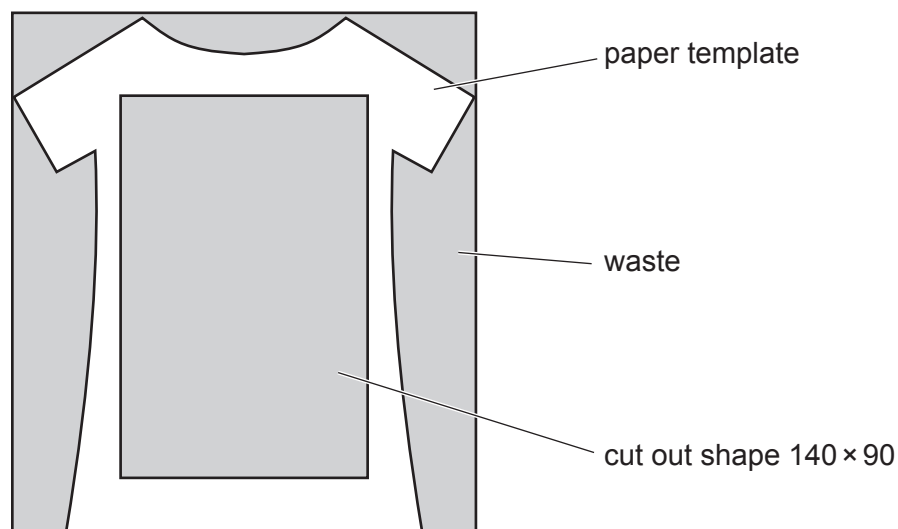

Fig. 13.2
- (a) Fig. 13.2 shows a paper template glued onto 4 mm thick acrylic sheet.